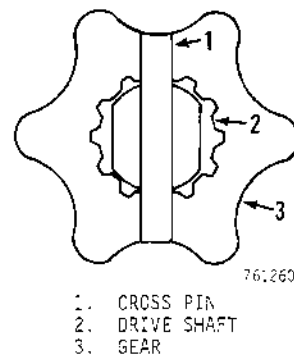

Figure 42 - Gear and Cross Pin Alignment
12. Install the gear on the driveshaft. The pin slot in the driveshaft must be in alignment with the valleys on the gear as illustrated in Figure 42. Then install the drive shaft in the spool. Rotate the gear as required until the driveshaft engages the cross pin.